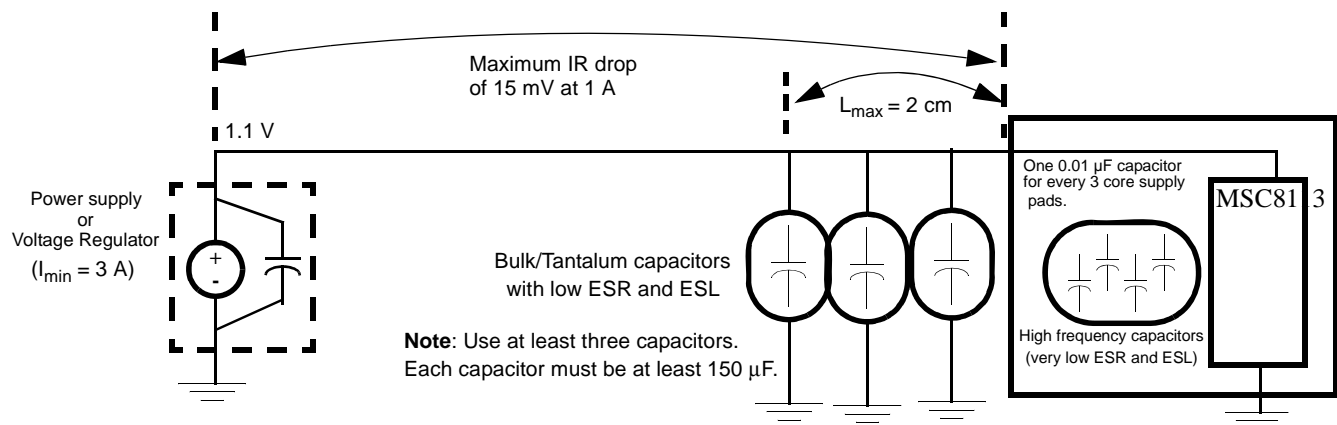

Figure 33. Core Power Supply Decoupling
Figure 33 shows the recommended power decoupling circuit for the core power supply. The voltage regulator and the decoupling capacitors should supply the required device current without any drop in voltage on the device pins. The voltage on the package pins should not drop below the minimum specified voltage level even for a very short spikes. This can be achieved by using the following guidelines:
- Decouple the supply using low-ESR capacitors mounted as close as possible to the socket. **Figure 33** shows three capacitors in parallel to reduce the resistance. Three capacitors is a recommended minimum number. If possible, mount at least one of the capacitors directly below the MSC8113 device.